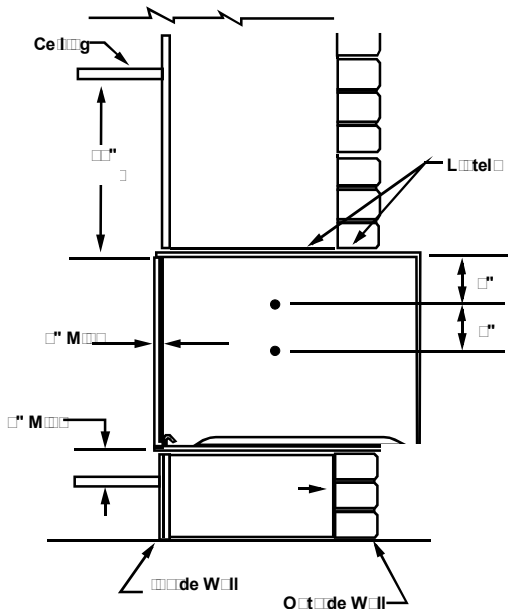
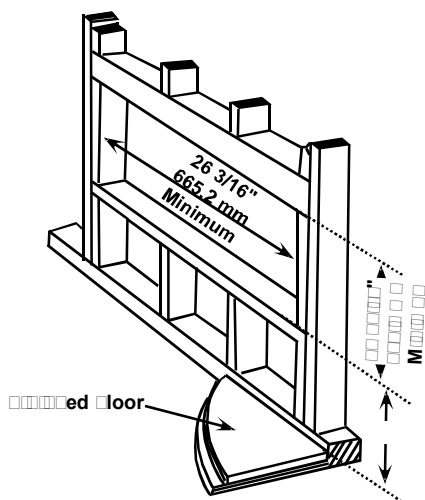

Figure 1
Figure 2
The opening must be the correct size. See Figure 1 for wall sleeve dimensions and Figure 2 for minimum wall opening size.
The wall sleeve must be installed in a minimum clearance to the floor and 2" to adjacent walls. See Figure 2 for minimum projections of the sleeve into and out of the room.
3. Locate the sleeve in the range of minimum projection to the casing as shown in Figure 2 so both sides are at least the minimum projection from the wall.